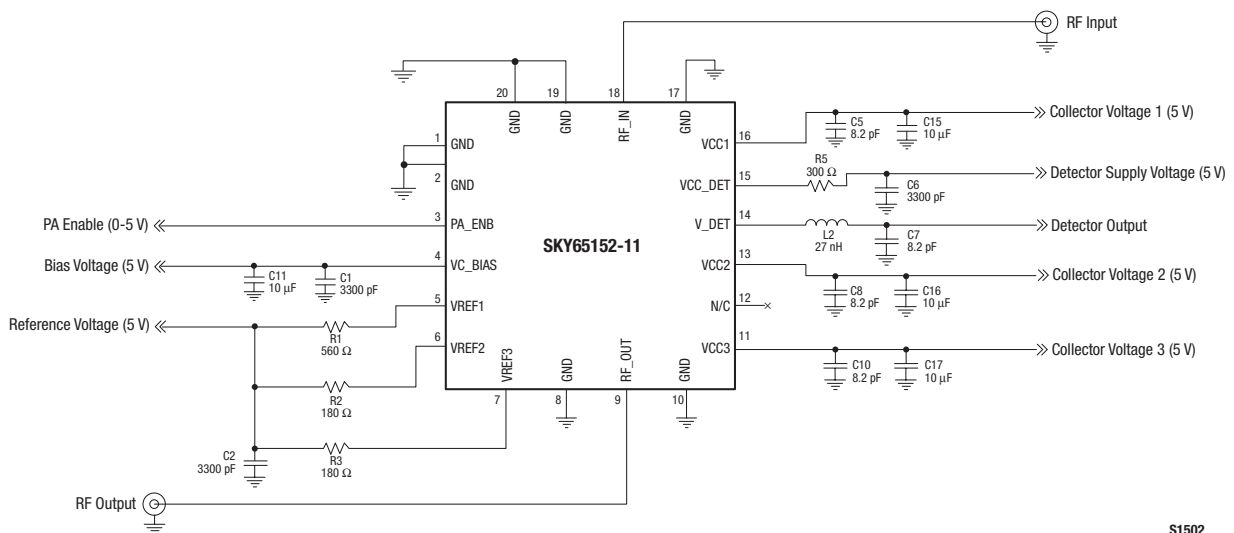

Figure 15. SKY65152-11 Evaluation Board Schematic
The SKY65152-11 Evaluation Board is used to test the performance of the SKY65152-11 PA. An Evaluation Board schematic diagram is provided in Figure 15. An assembly drawing for the Evaluation Board is shown in Figure 16.
3. Bypass capacitors should be used on the DC supply lines. An RF inductor is required on the VCC supply line to block RF signals from the DC supply. Refer to the schematic drawing in Figure 15 for further details.
VCC3 (pin 11). Supply voltage for the output (final) stage collector bias (typically +5 V). To bypass VCC3, capacitors C10 and C17 (see Figure 15) should be placed in the approximate location shown on the Evaluation Board, although exact placement is not critical.
VCC2 (pin 13). Supply voltage for the second stage collector bias (typically +5 V). To bypass VCC2, capacitors C8 and C16 (see Figure 15) should be placed in the approximate location shown on the Evaluation Board, although exact placement is not critical.
V_DET (pin 14). The output power detector voltage signal. The detector load and settling time constant are set external to the device. Inductor L2 and capacitor C7 (see Figure 15) are set to yield a settling time of $< 0.5 \mu$ s.
VCC_DET (pin 15). The power detector supply voltage signal. Resistor R5 and capacitor C5 (see Figure 15) are used for proper bias and bypassing of this pin. VCC_DET (pin 15) may be connected to the PA_ENB supply (pin 3). The benefit of this is that the current draw consumed by the detector will not be wasted with the device in the off state.
VCC1 (pin 16). Supply voltage for the first stage collector bias (typically +5 V). To bypass VCC1, capacitors C5 and C15 (see Figure 15) should be placed in the approximate location shown on the Evaluation Board, although exact placement is not critical.